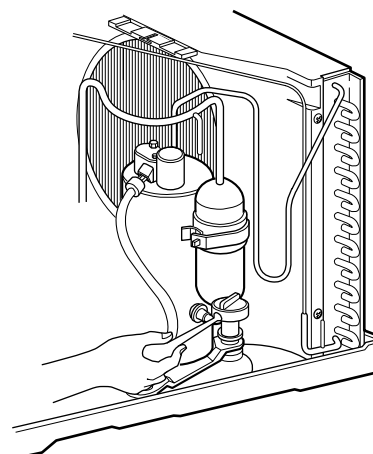

Figure 8
6. Remove the compressor. (See Figure 8)